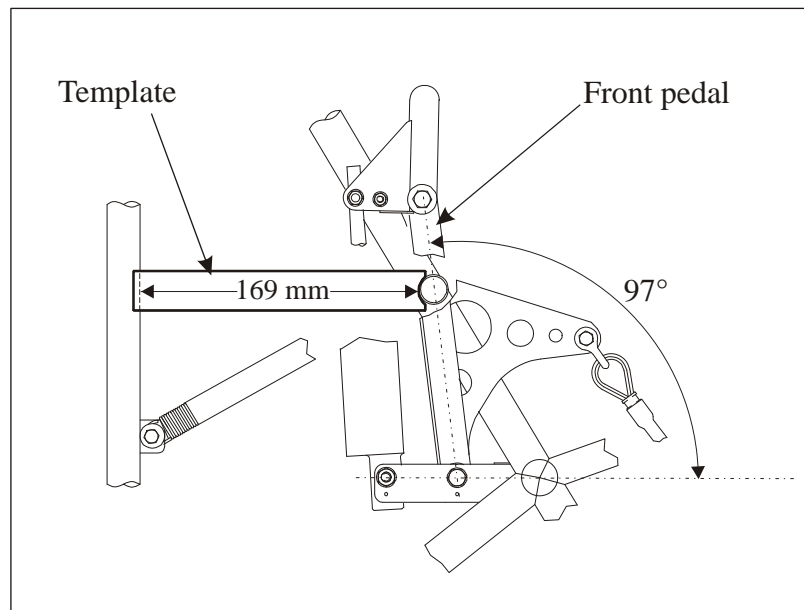

Figure 16 Front Pedal Position and Template
- 23 Fix the front pedal in almost vertical position (97° relative to the footrest). Use a template as shown in Figure 16.